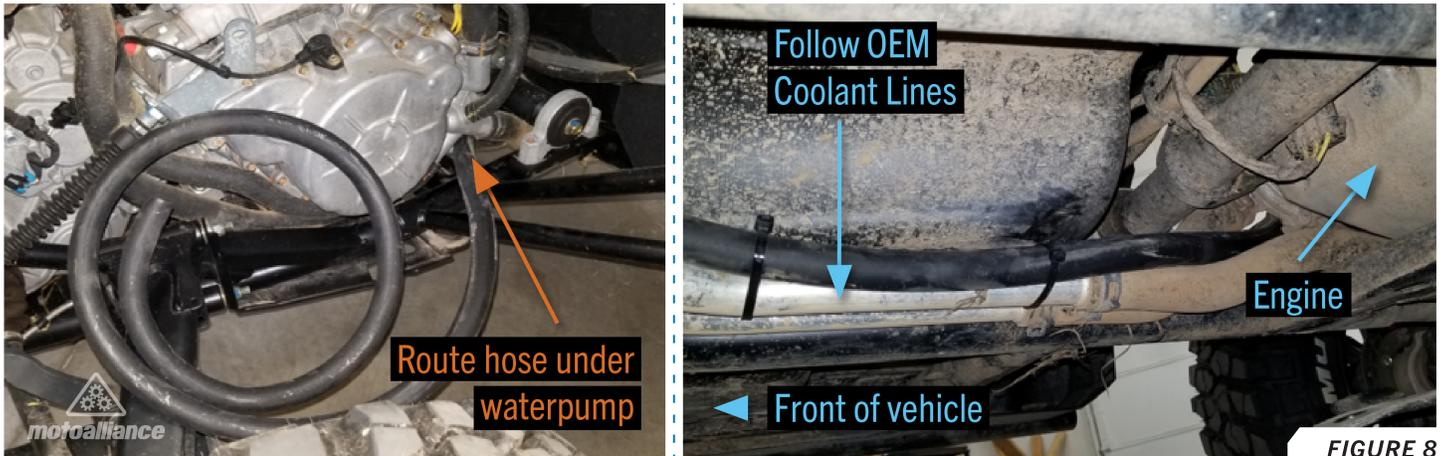

FIGURE 8
16. From the passengers rear wheelwell, route the 5/8"x20' radiator hose to the front of the vehicle following the OEM radiator lines. *FIGURES 8, 9*